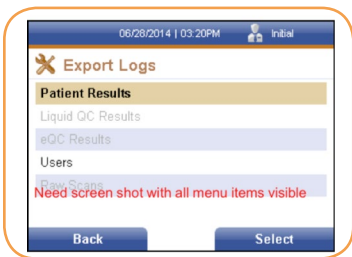

FIGURE 121
2. Press the right soft key to select it. The Export Logs screen is displayed (Figure 121).